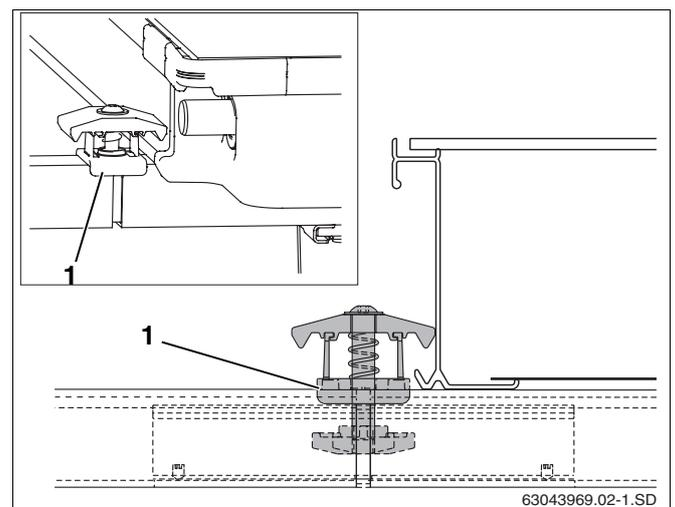

Fig. 47 Fitting a double-sided collector clamp
- ▶ Insert the double-sided collector clamp, nut first, into the opening made by the profile rail and plug connector so that the plastic spacer (Fig. 47, **Item 1**) surrounds the profile rail.